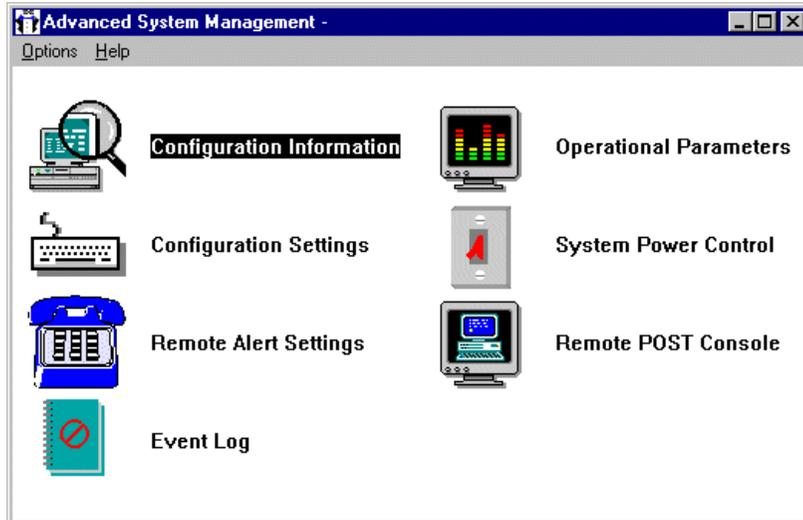

Figure 181. Advanced System Management Window
2. Double-click Advanced System Management. Figure 181 appears.